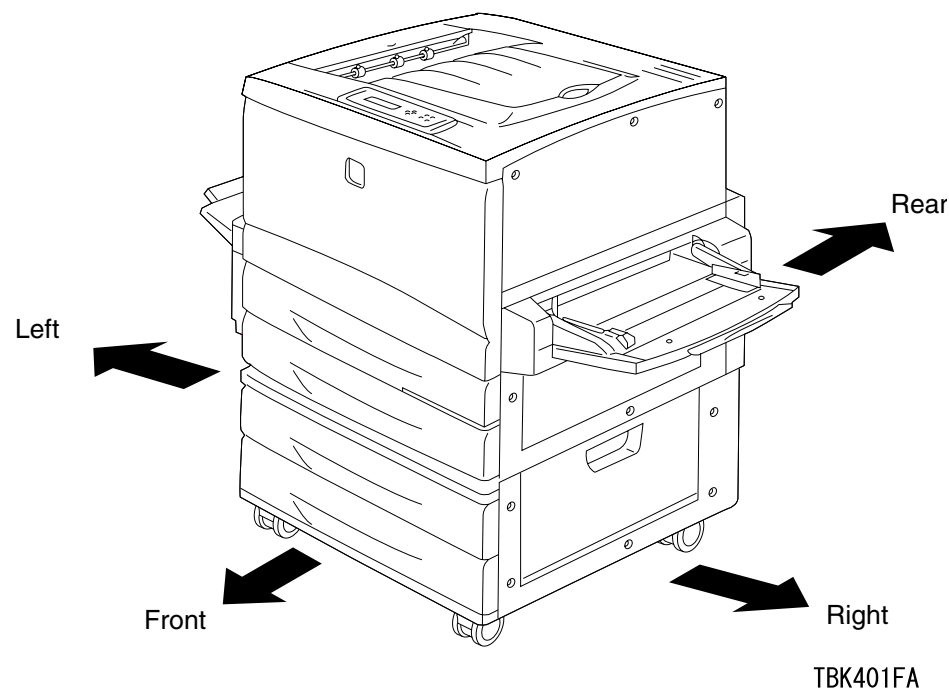

Figure 3-1. Directions
- ☐ Directions are described as mentioned below. (See Figure 3-1.)